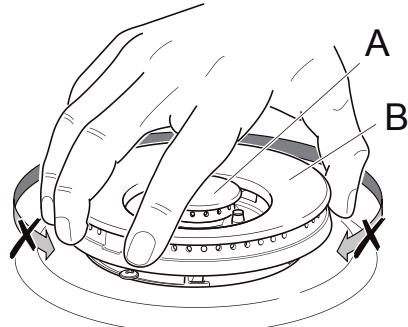

Figure 15f
- Then position the cap "A" and the ring "B" (see fig. 15f).